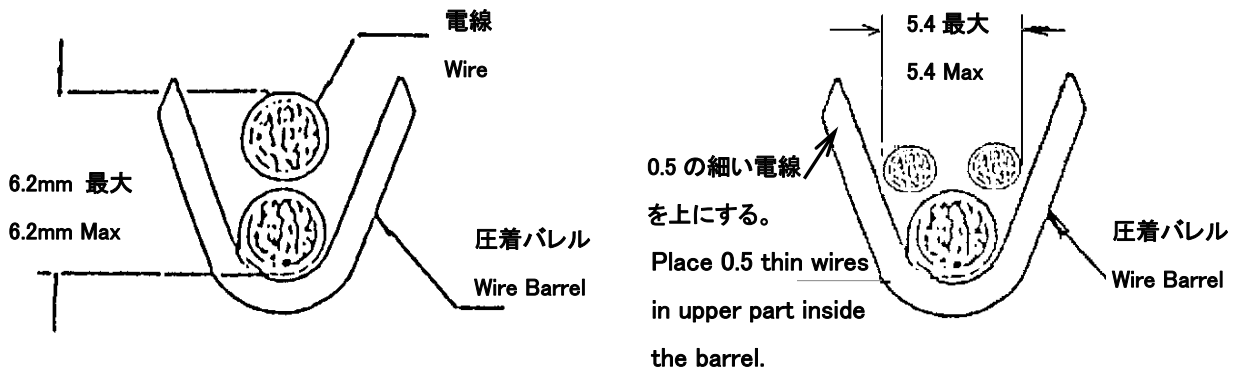

Fig.4
- When to make a two-wire or a three-wire crimp in the same barrel, stack wires as shown in Fig.4. In this case, outside diameter of their insulation shall conform to that given in Fig.4.
1. When to make a two-wire or a three-wire crimp in the same barrel, stack wires as shown in Fig.4. In this case, outside diameter of their insulation shall conform to that given in Fig.4.